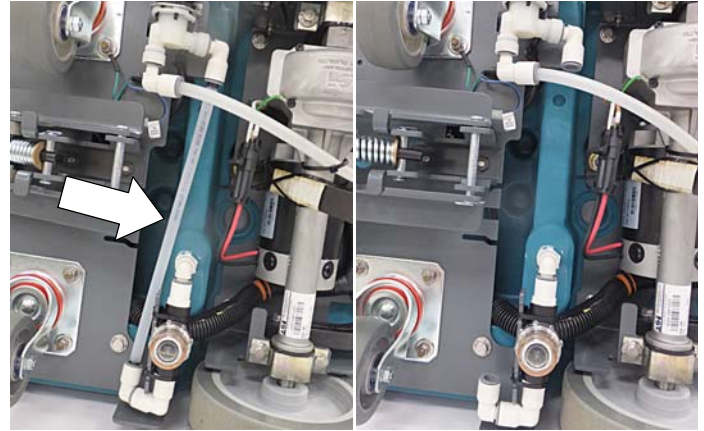

Fig. 15
3. Remove the solution hose as shown. Do not discard hose, it will be utilized in step 8. Press the gray collar on fittings inward and pull the hose outward to remove hose from fitting (Figure 15).